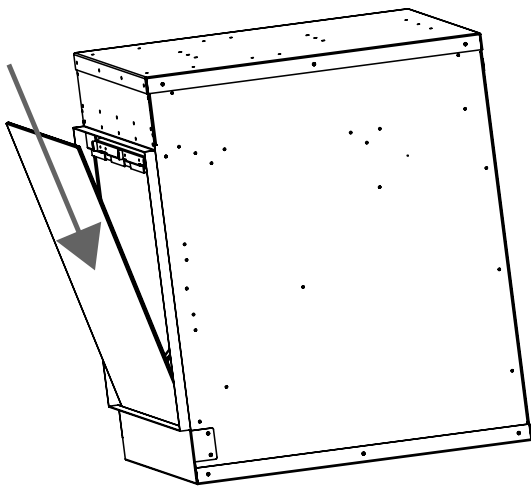

Figure 19: Front Glass Install
2. Angle the front glass down into the front gap as shown in Figure 19 until it clears the magnets and front face.